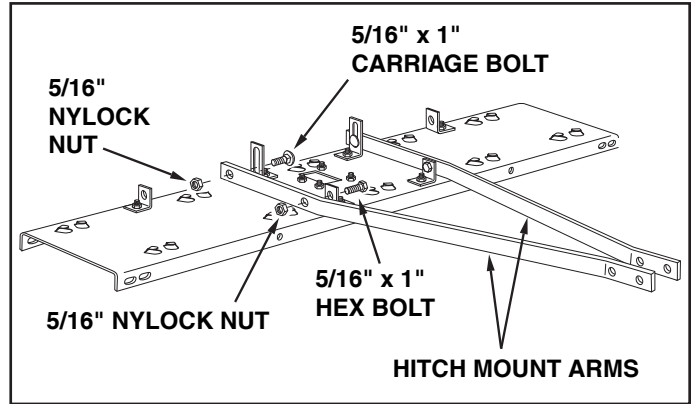

FIGURE 3
5. Fasten the hitch mount arms to the outside of the angle brackets at the front of the tine shield. Use two 5/16" x 1" hex bolts and 5/16" nylock nuts. **Tighten** and then **loosen** the nuts slightly. See figure 3.
6. Fasten the hitch mount arms to the outside of the hitch arm mount brackets at the rear of the tine shield. Use two 5/16" x 1" carriage bolts, and 5/16" nylock nuts. **Do not tighten yet.** See figure 3.